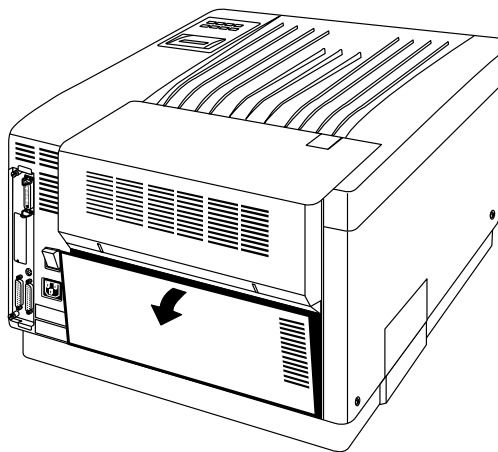

Fig. 6.16 *Open the Back Cover*
1. Open the back cover by pressing the top-right corner (fig. 6.16).